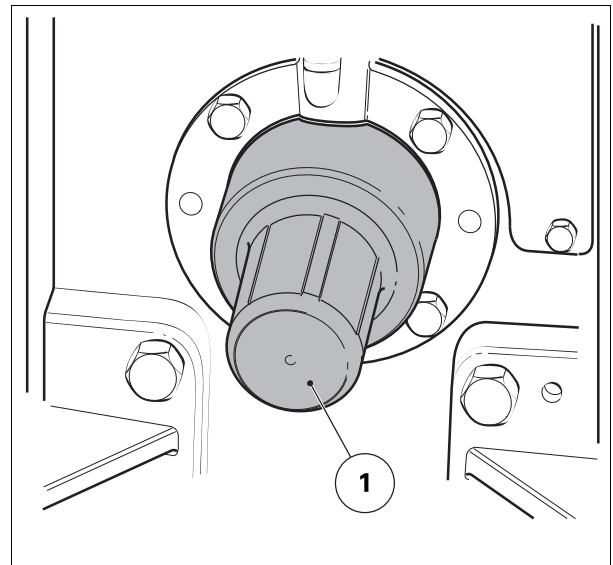

Fig. 7.
- Ensure that the PTO cap (1) is fitted when the PTO shaft is not in use fig. 7.